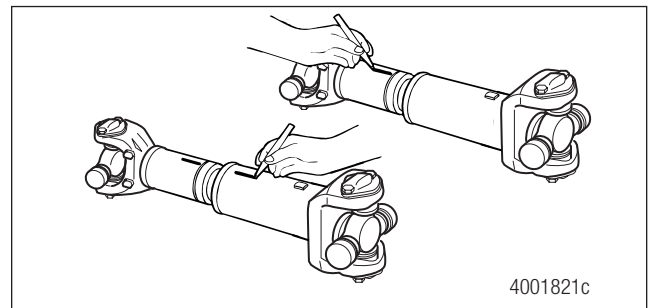

Figure 8.2
3. Mark the slip yoke and slip shaft sections to ensure that you reassemble them into their original positions. Figure 8.2.